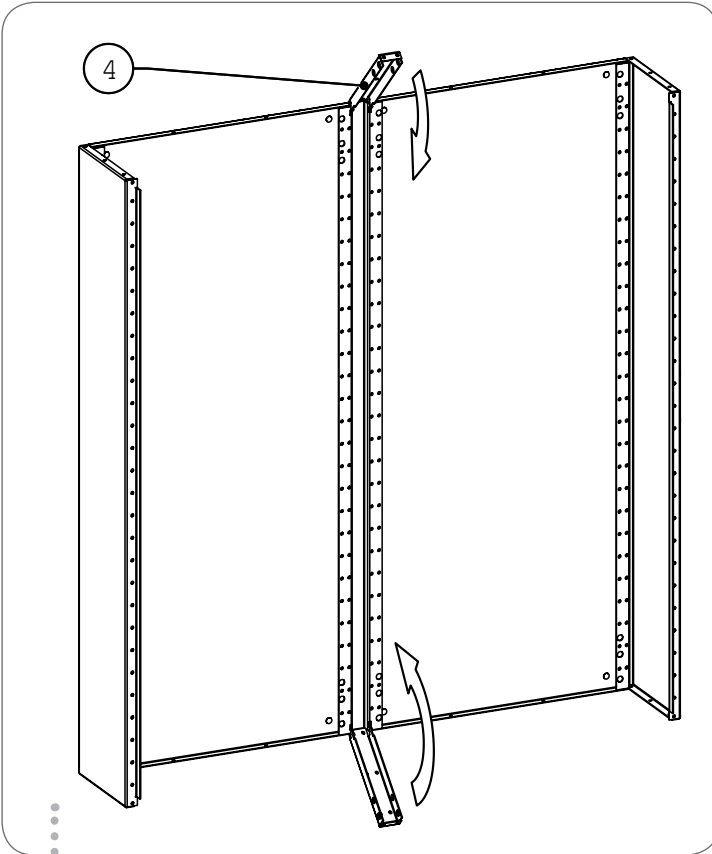

Fig 8.2.3 Installing end support.
After the side plates are joined. End supports (4) are joined to the enclosure, shown in figure 8.2.3. By the installation of the single field enclosure, install directly the end plates (5) without the end supports, see 8.2.4.